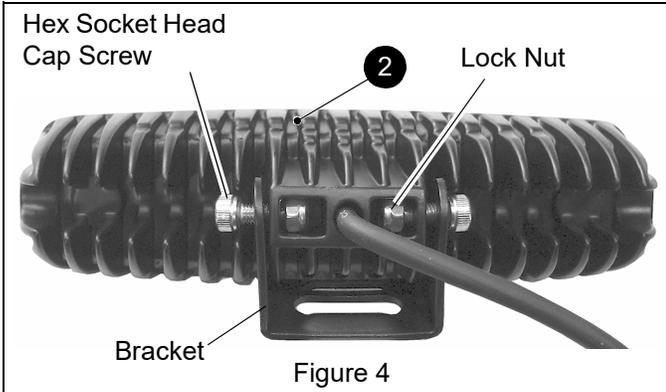

Figure 4
6. If not pre-installed, secure brackets to headlights (item 2) with included hardware. DO NOT completely tighten hardware until headlights are adjusted. See Figure 4.